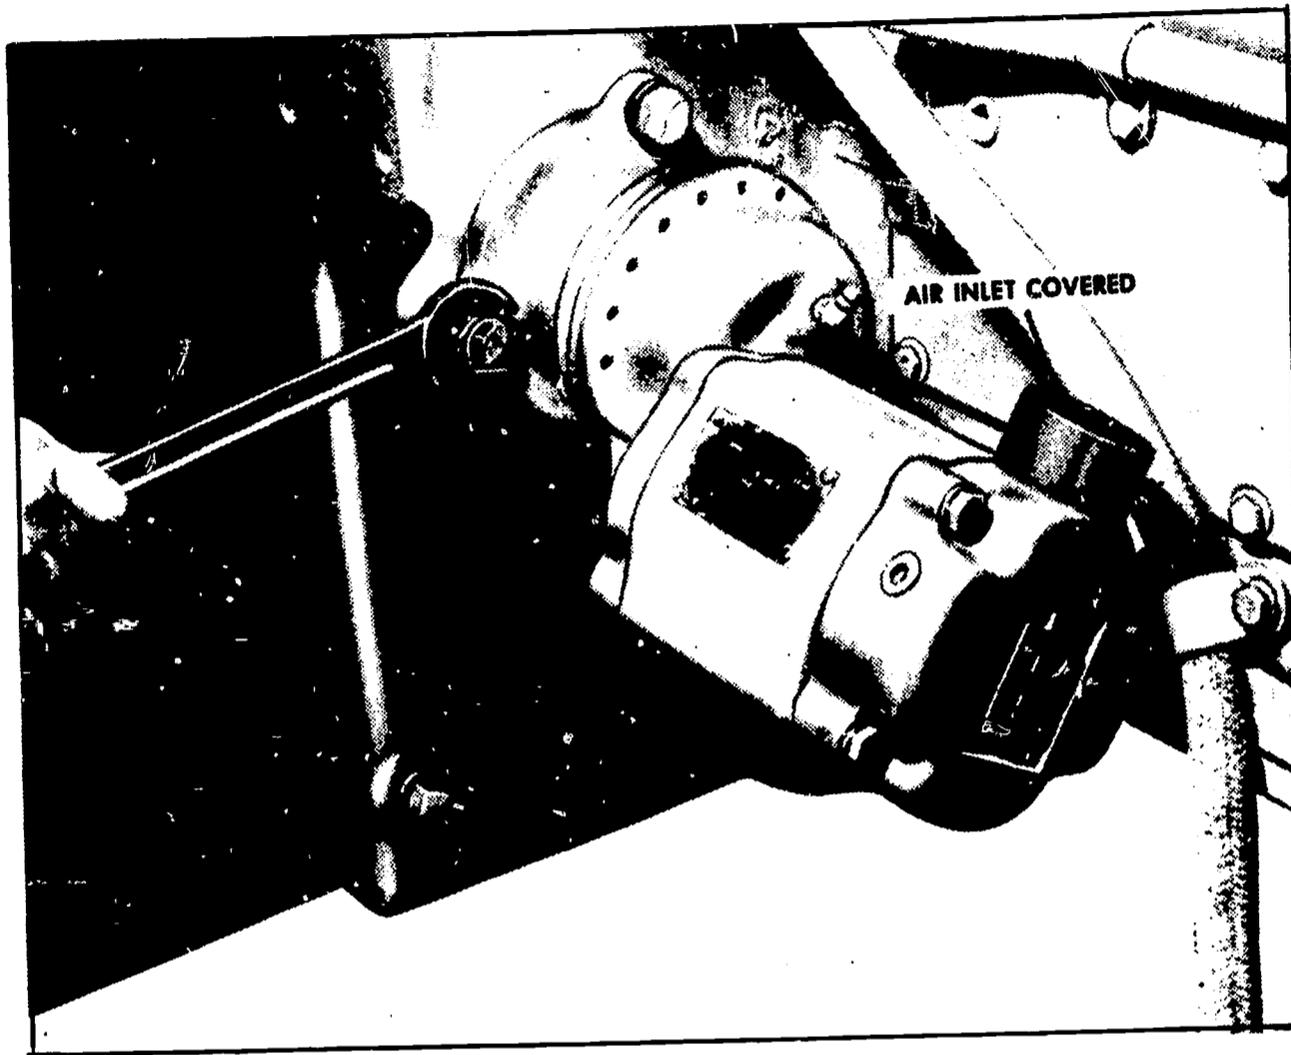

Fig. 4 Mounting air starter.
3. Tighten capscrews securely, see Figure 4.